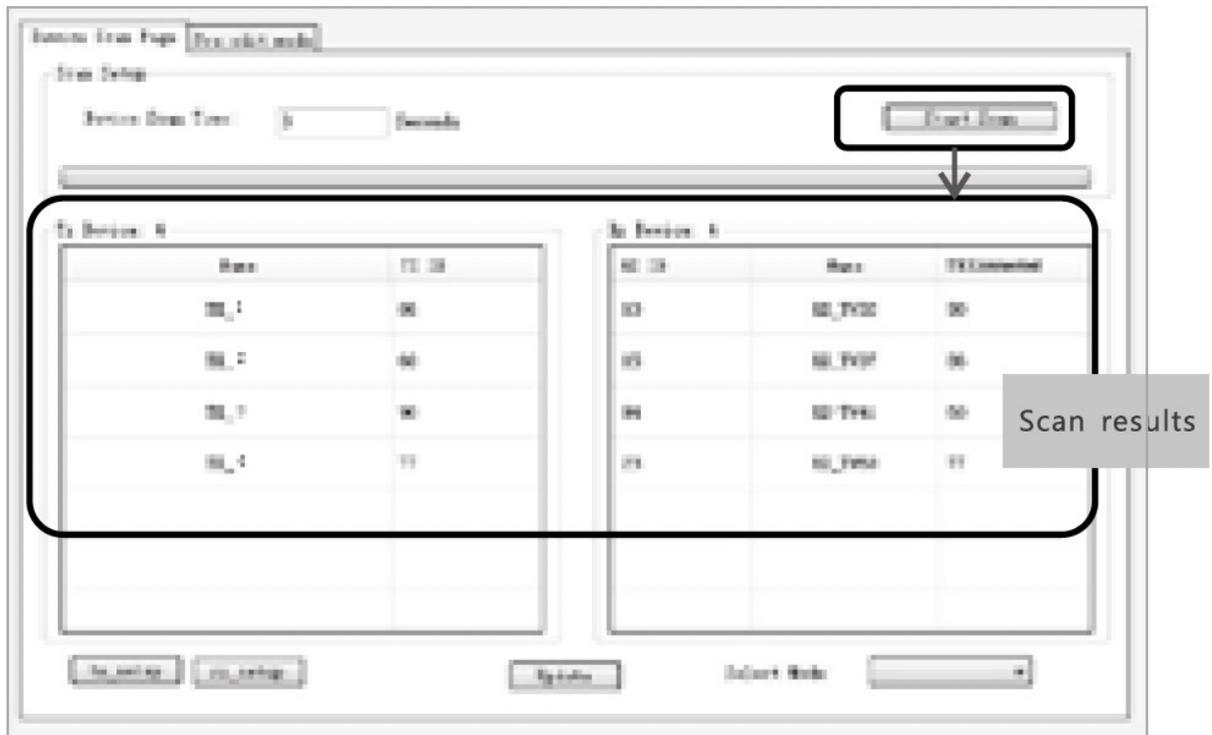

Figure 3
2. Firstly, connect the router to the IGMP switch. Then, connect mobile phone and the router with each other, open the downloaded APP "Matrix Control Lite" will enter to the interface as figure 3, TX ID, RX ID, TX connected number can be re-set by this APP, also can edit device name for marking.
*Click button "Start Scan" the scanned result shows as Figure 3